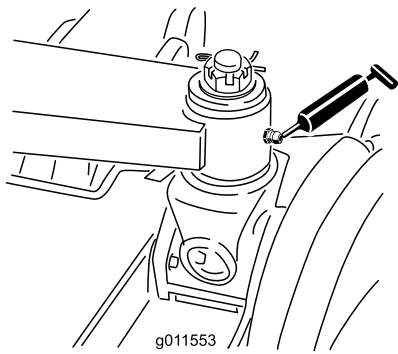

Figure 68
- Main lift arm bushings (6) (Figure 67 and Figure 68)